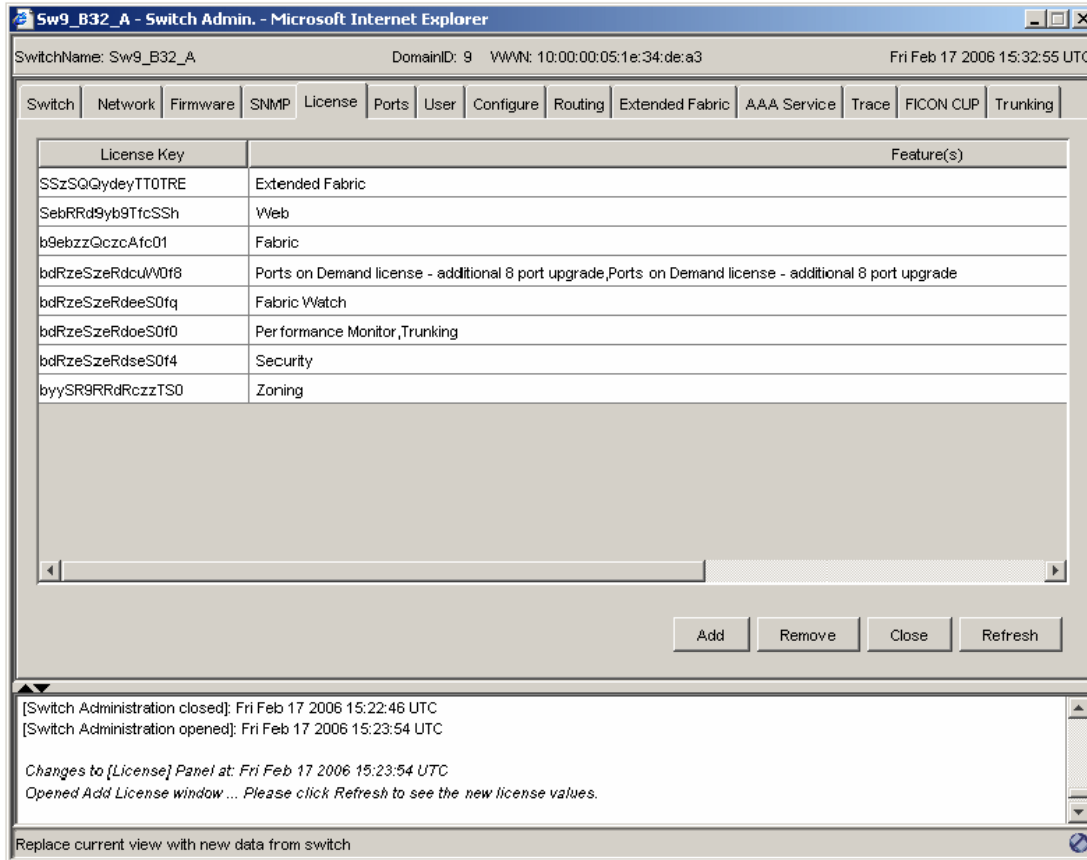

Figure 5-31 Verify licenses
7. Click **Refresh** on License tab to verify that the new License has been added to the Feature List (see Figure 5-31).